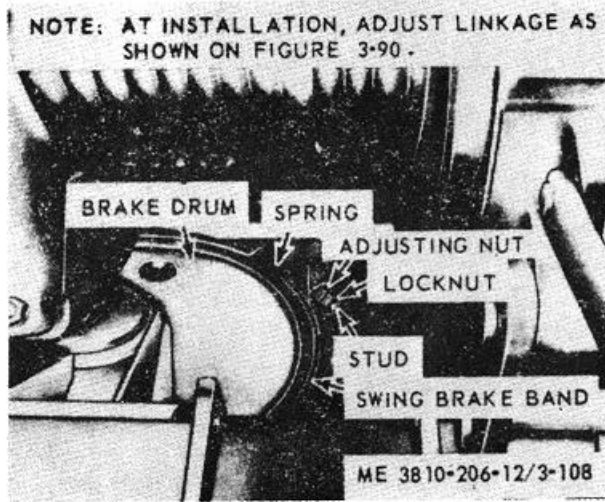

Figure 3-108. Swing brake band, removal and installation
a. *Removal and Installation.* Refer to figure 3-108 and remove swing brake band. Install in reverse order.
(1) Clean all metal parts in an approved cleaning solvent and dry thoroughly. Wipe brake lining with a clean cloth, or blow clean with compressed air.